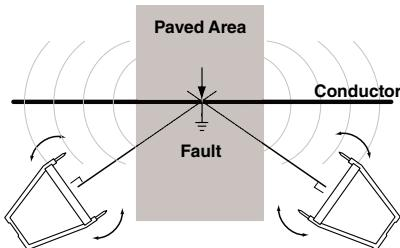

Figure 13 – Locating below paved surfaces
- If the paved area is relatively small, the receiver can be used around the periphery of the area. The receiver can be rotated side to side, and where the receiver directional arrows and beeping toggle back and forth, extend a straight line perpendicular to the center of the A-Frame Receiver. Do this in several locations around the suspected fault area. The straight lines should all intersect at the same point. This is the location of the fault. This method of locating is less exact than placing the receiver directly over the conductor. See Figure 13.